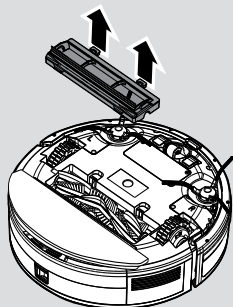

Fig. 17
2. Press the clips on the sole plate remove the agitator cover. [Fig. 17]